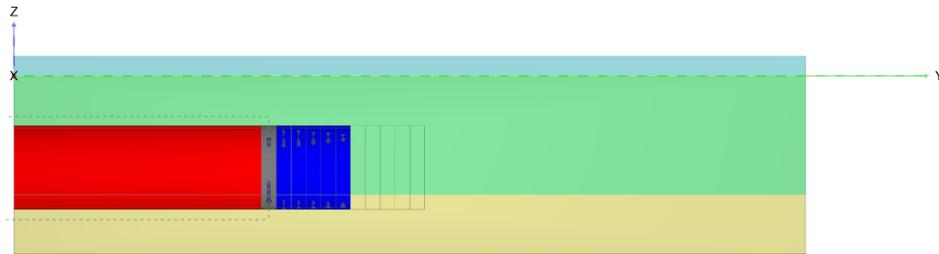

Figure 80: Selection of plate (0 m - 25 m)
- a. Select the **Select plates** option in the appearing menu. Select the surfaces between 0 m and 25 m in the model to which plates are assigned (Figure 80 (on page 106))